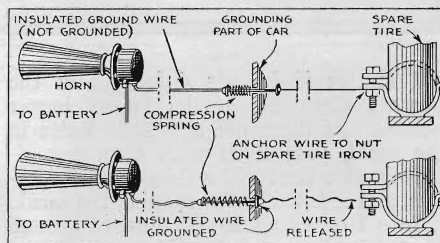

Fig. 3. This thief alarm can be adjusted to any car and will sound if spare is removed.
FIG. 3, above, shows an excellent way to protect the spare tire from theft. It operates electrically so that if anyone attempts to remove the tire the horn will start to blow and keep it up till shut off by the owner. The exact details of installations will, of course, depend on the type of car and the method of carrying the spare tire. When the string under the bolt head is released, the spring pulls the washer against the metal of the hole and completes the circuit.
**POPULAR SCIENCE MONTHLY** awards each month a prize of \$10, in addition to regular space rates; for the best idea sent in for motorists. This month's prize goes to Ralph M. Coombs, Canaseraga, N. Y. (Figure 3). Contributions are requested from all auto mechanics.